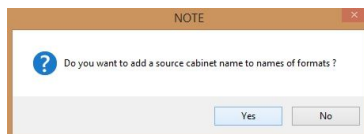

Fig. 114 – message
- you will be asked whether the names of imported formats are to be preceded by the symbol of the source cabinet (Fig. 114);